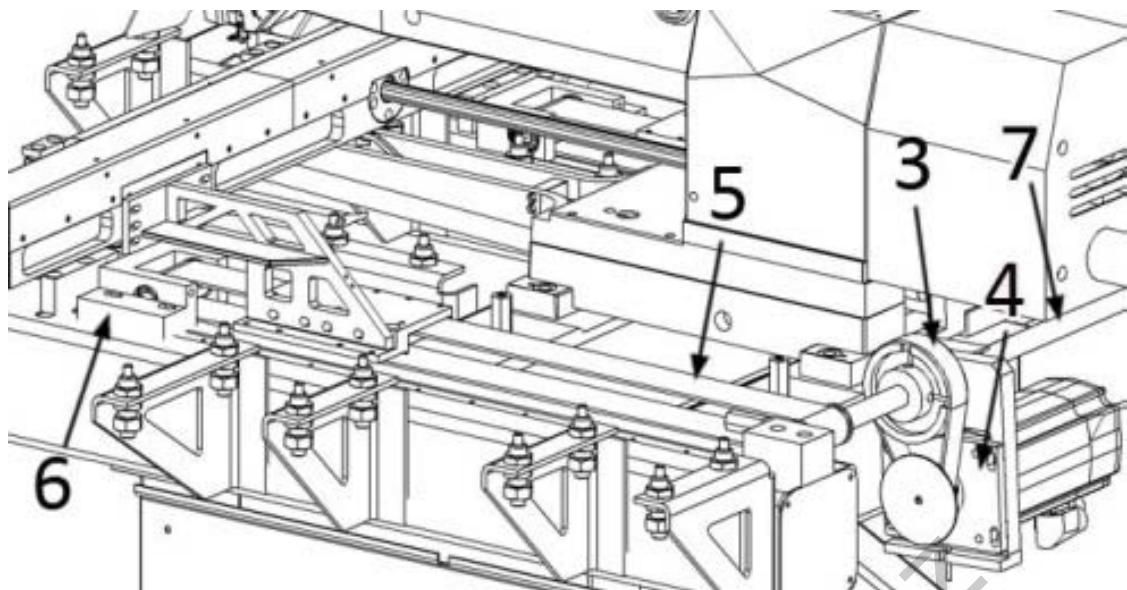

Fig. 56
B. Timming belt 3, fig. 56, of Y axis has frequency from 210 to 230 Hz. The tension of the belt can be regulated by the movement of holder 4 where is situated tension screw which is, supported by the main holder. The movement is transferred from the shaft 7 to timing belt 5. There are two timming belts, one on the right, one on the left. Frag. 56 shows just only the left one. They have 50Hz of the frequency. The tension of the belt can be regulated by the movement of holder 6 where is situated tension screw. The timming belt 3 can be reached after taking off cover under the back table.